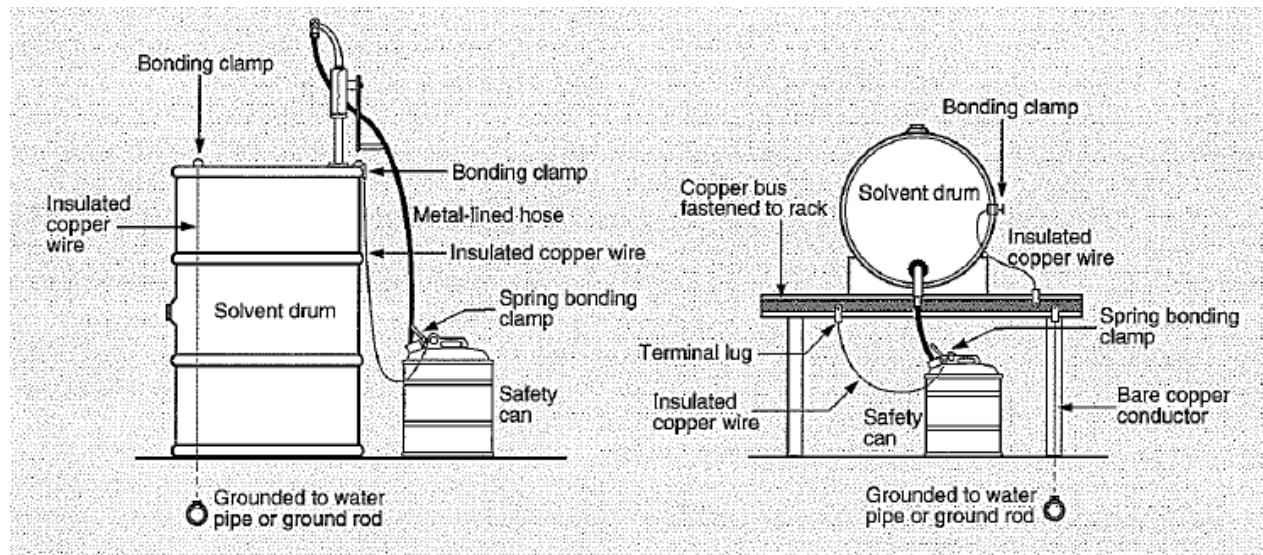

Figure 4.16: Proper Grounding for Transfer of Flammable Liquids
- 4-69 Figure 4.16 shows containers properly grounded for the transfer of a flammable liquid. The containers must be connected with a ground wire, and at least one of the containers must be connected to a permanent ground. To be effective, complete metal-to-metal contact must be made throughout the grounding system so that any accumulated static reaches the ground. Remove any rust, paint, or other coating that could prevent good contact between the grounding wire and the container.